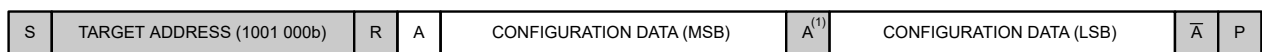

Figure 10-6. Read the Configuration Register to Check for OS = 1b
- Write the Configuration register as shown in Figure 10-6 to configure the device (for example, when using the ADS1115L, write MUX[2:0] = 000b, PGA[2:0] = 010b, MODE = 1b, and DR[2:0] = 110b) and start a single-shot conversion (OS = 1b).
Alternatively, poll the OS bit for a 1b as shown in Figure 10-6 to determine when the conversion result is ready for retrieval. This option does not work in continuous-conversion mode because the OS bit always reads 0b.